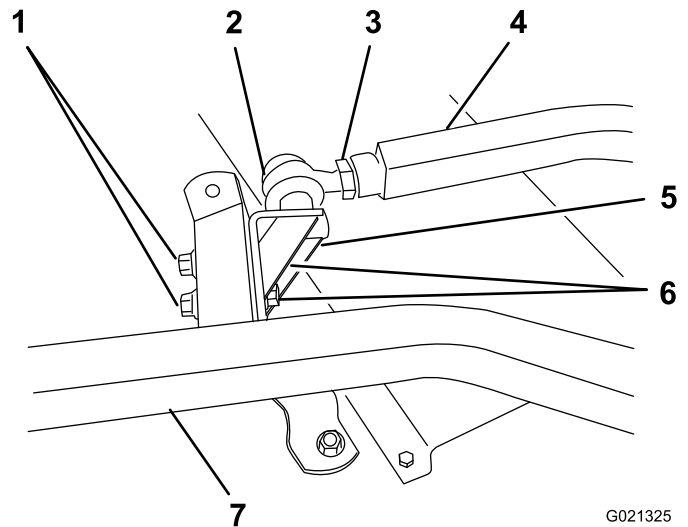

Figure 23
6. Have another person push down on the left push arm while you remove the cap screws, flat washers, and locknuts securing the ball joint mount to the castor arm on the cutting unit (Figure 23). Now the helper can carefully allow the push arm to move upward, which will gradually release the 68 kg (150 lb) of spring load
5. Have another person carefully push down on the left push arm until the holes in the ball joint mount line up with the holes in the castor arm (Figure 23). Immediately slide a 4 x 4 inch block of wood between the top of the push arm and the underside of the chassis.